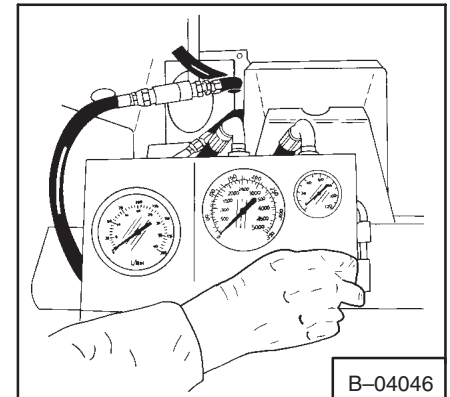

Fig. 2-67 Testing Pump Output
2. Connect the inlet of the tester to the outlet of the hydraulic pump (Fig. 2-67).